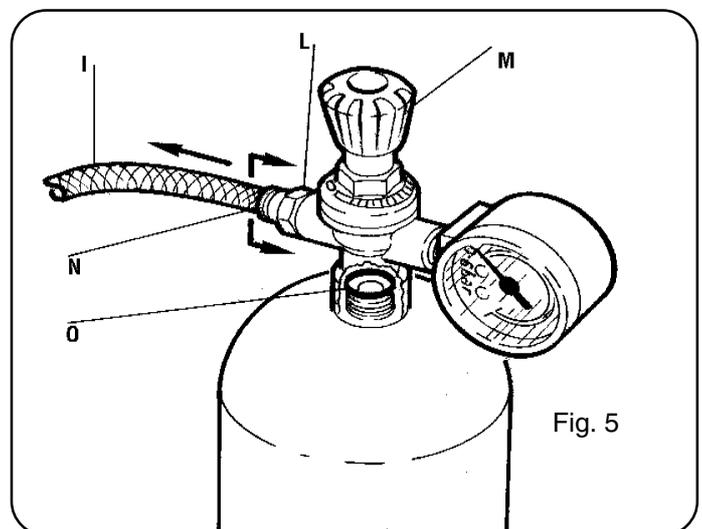

Fig. 5
8.1 DISPOSABLE CYLINDERS (see fig.5)